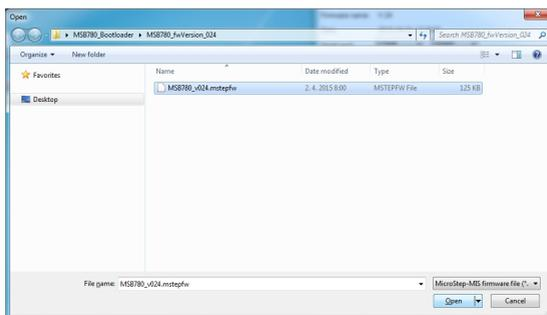

Figure 10: Selecting the firmware file
2. Choose the firmware file with .mstepfw suffix. Figure 10.